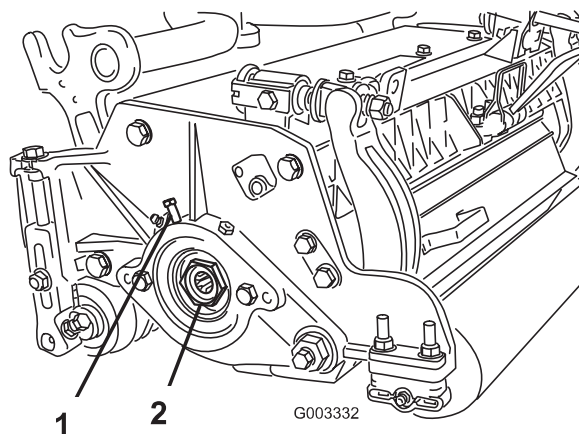

Figure 20
- A. Loosen external set screw securing bearing adjusting nut to bearing housing located on the left side of the cutting unit (Fig. 20).